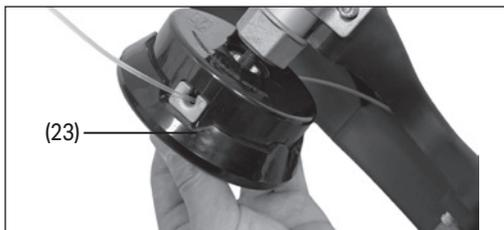

Fig.6
- Align the cutting guard (20) with the shaft (19). Attach the bracket to the guard with the hex bolts supplied, finger tighten.
- Use the 4mm hex key (34) supplied and tighten the bolts.
6.3 Fitting the Spool Assembly (Fig.6)
- Screw the spool (22) directly onto the trimmer shaft clockwise by hand.